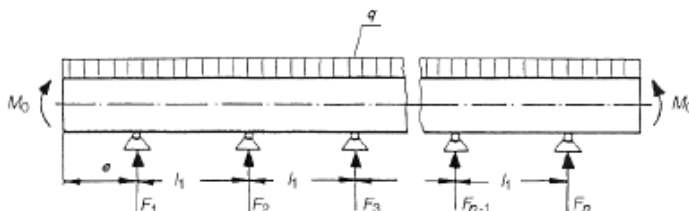

Fig. 3.103 Calculation scheme of a horizontal vessel according to GOST 34233.5
- Hinge – used for flexible structures or sliding supports if there is a gap between the base plate and anchor bolts, or for fixed supports if the anchor bolts are in a row in the XY plane. Fastening in the YZ plane is modeled by a hinge, no moment occurs in the reactions. This option is recommended by GOST 34233.5 (Fig. 3.103)